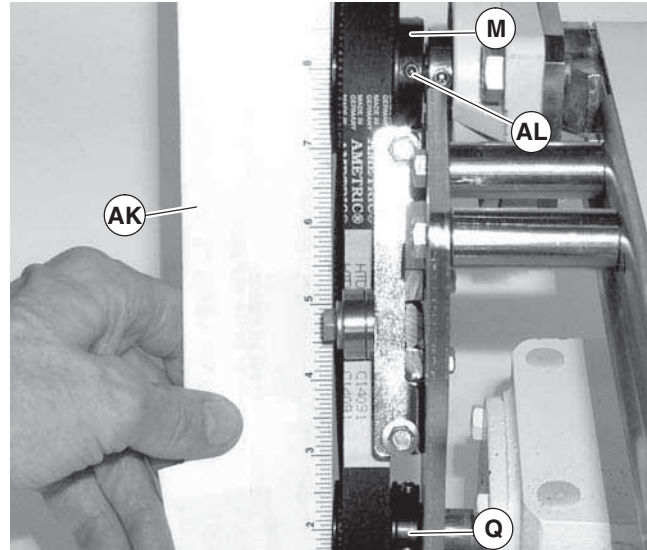

Figure 10
4. Using a straight edge (Figure 10, item AK), align driven pulley (M) with drive pulley (Q). Tighten two driven pulley set screws (AL).